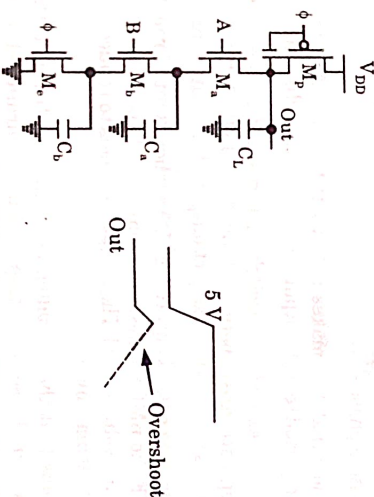

Fig. 3.7.4. Clock feed through.
- The clock signal is coupled to the storage node by the gate-source capacitance and the gate-overlap capacitance of the precharge device as shown in Fig. 3.7.4.